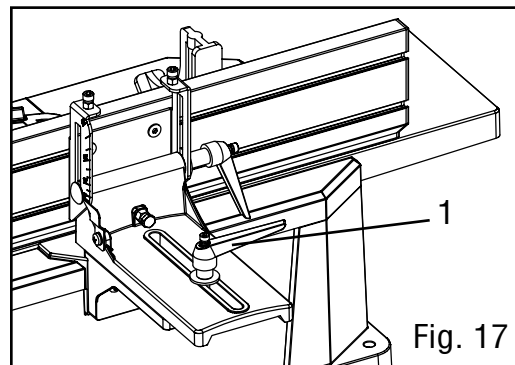

Fig. 17
2. Loosen the fence sliding handle (Fig. 17 - 1).